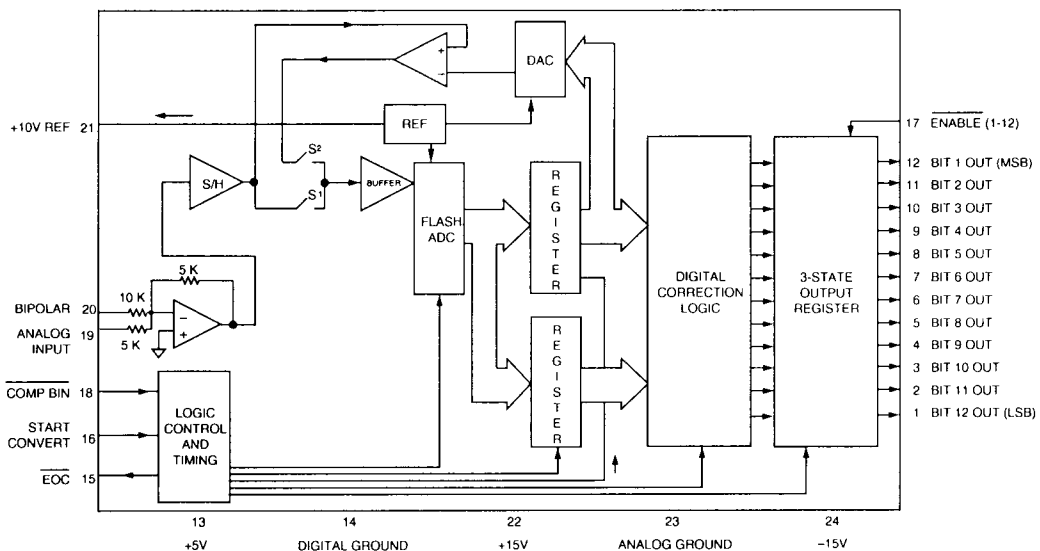
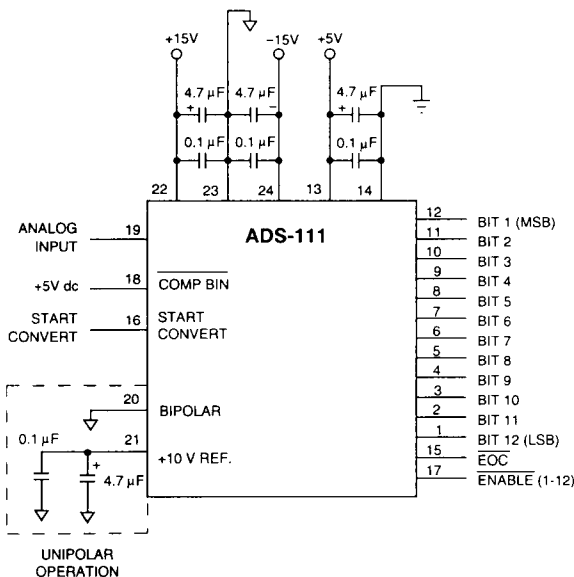

Figure 1. ADS-111 Simplified Block Diagram
Figure 3. Typical ADS-111 Connection Diagram
- Applications which are unaffected by endpoint errors or remove them through software will use the typical connections shown in Figure 3. Remove system errors or adjust the small initial errors of the ADS-111 to zero using the optional external circuitry shown in Figure 1. The external adjustment circuit has no affect on the throughput rate.
- Connect the converter per Figure 3, Figure 4, and Table 1 for the appropriate full-scale range (FSR). Apply a pulse of 200 nanoseconds minimum to the START CONVERT input (pin 16) at a rate of 250 kHz. This rate reduces flicker if LED's are used on the outputs for calibration purposes.